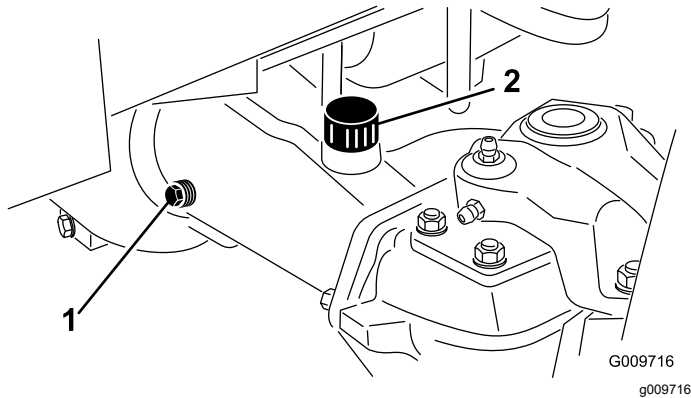

Figure 93
2. Remove a check plug from 1 end of the axle (Figure 93) and make sure that the oil is up to the bottom of the hole. If the level is low, remove the fill plug (Figure 93) and add enough oil to bring the level up to the bottom of the check-plug holes.